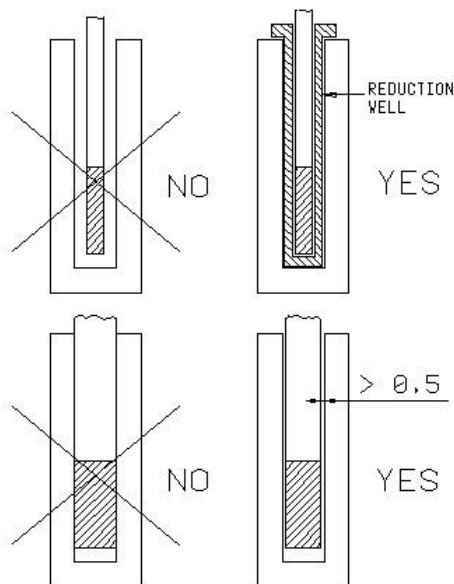

Fig.1
- If this is not possible, use the reduction wells with the above-mentioned tolerances (fig.1).